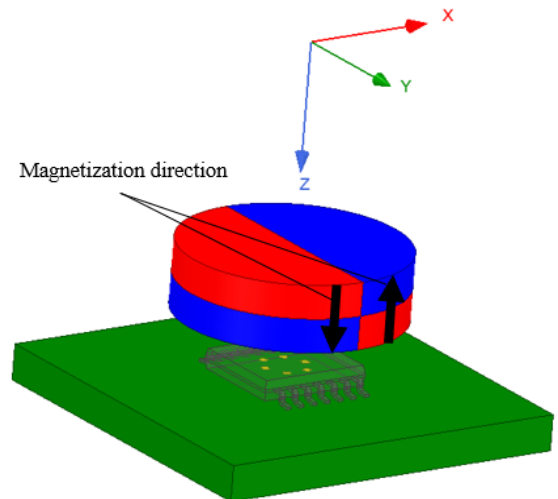

Figure 4: Isometric view of the A33020 and the cylinder magnet with four-pole axial magnetization
- Four-pole ring, cylinder, or block magnet with magnetization parallel to the axis of rotation (Figure 4).